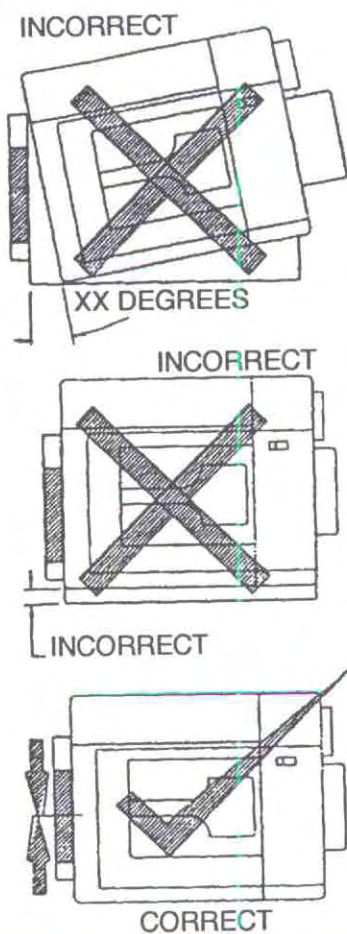

Figure 1-17.
2. The rear of the printer must be set squarely against the stacker's Transport Module, so there is no gap or skew between the Transport Module's cover and the printer, as shown in Figures 1-17 and 1-18.